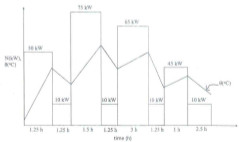

Figure 1: Variable Loading Condition of Designed Machine Tool of question 4(a).
4. A design specification of a machine tool shows that it will operate under variable loading conditions. The expected load variation based on process analysis is shown in Figure 1. The overall efficiency of the transmission system is 85.6%. A load variation graph of the system is provided in Figure 1. The machine tool utilizes a gearbox to generate different spindle speeds. The minimum spindle speed of the system is 50 RPM. The gearbox has a range ratio of 12. The gearbox is designed using a geometric progression step ratio of ϕ_{10} . The motor driving the gearbox has a torque of 127.528 N-m and is connected with the input shaft via a flat belt drive which generates a speed reduction of 2:1.